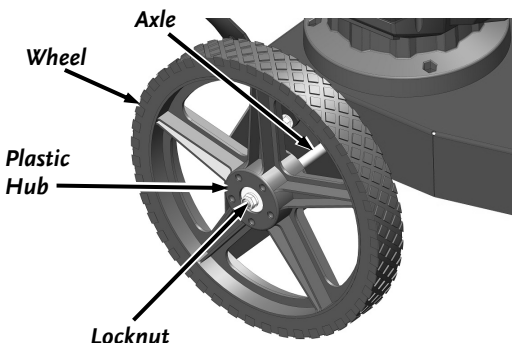

Figure 16
2. Remove the Locknut using a 5/8" Wrench (**Figure 16**).